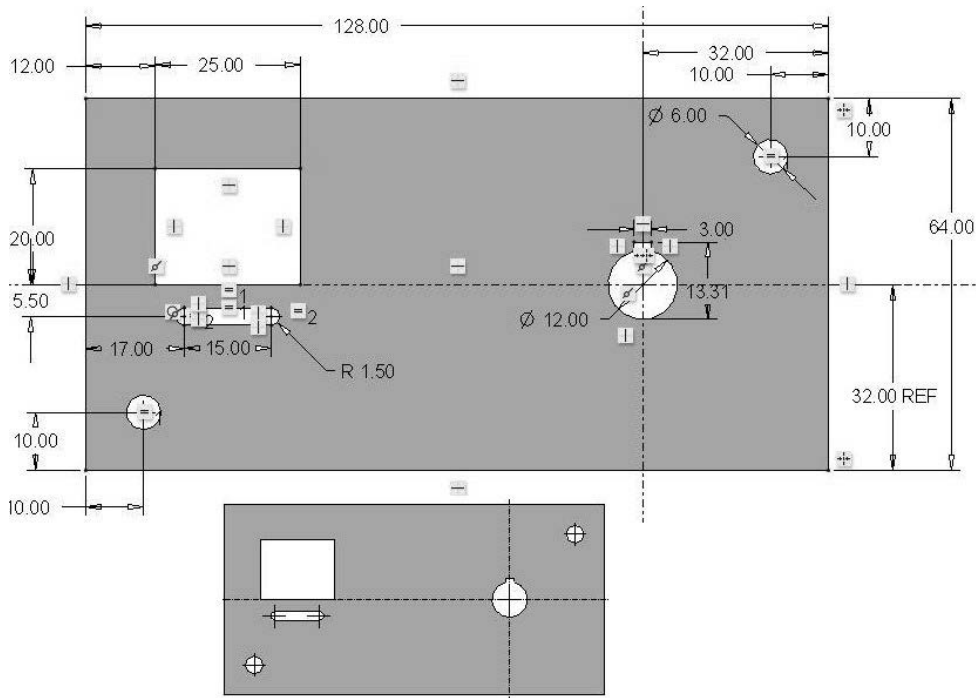

Figure 3-76 Problem 7—Front Cover Plate
3.7 Draw the "front_cover_plate" (Figure 3-76). **Design Intent**—All features are located from the outside edge of the cover plate, and not relative to each other.